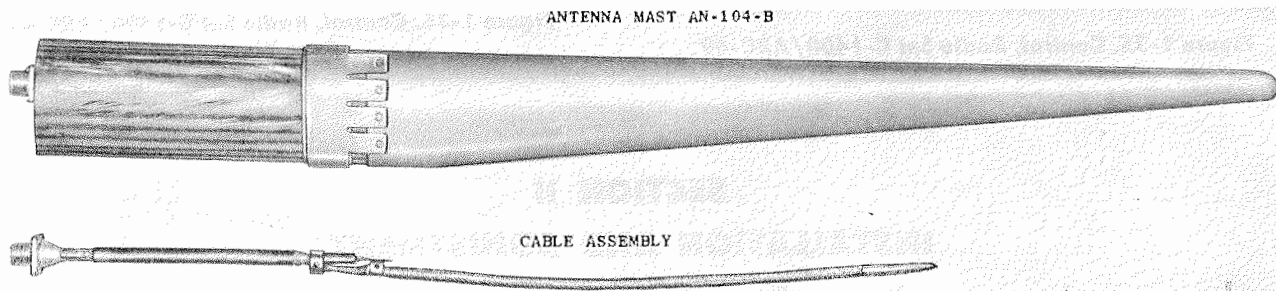

Figure 1-31. Antenna Mast AN-104-B
g. ANTENNA MAST AN-104-B. — This antenna mast consists of a hardwood oval-shaped rib approximately 31 inches overall in length. (See fig. 1-31.) The antenna element and transmission line are housed in a drilled cavity that extends up through the center. A Socket SO-259 at the base of the mast is for making connection to the radio equipment. The upper portion of the mast is covered by a metal sheath which extends to within $8\frac{1}{4}$ inches of the base of the mast. (See figs. 1-31, 8-14 and 8-15.)